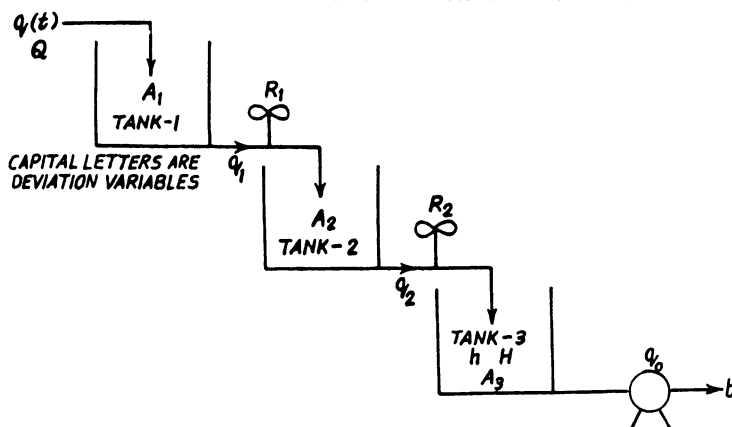

Fig. 1.18
**1.39. Determine the transfer function  $H(s)/Q(s)$  for the liquid level system shown in Fig. 1.18. Resistances are linear ( $R_1$  and  $R_2$ ). The flow rate from tank 3 is maintained constant at  $b$  by means of a pump i.e. the flow rate from tank 3 is independent of head  $h$ . The tanks are non-interacting.**